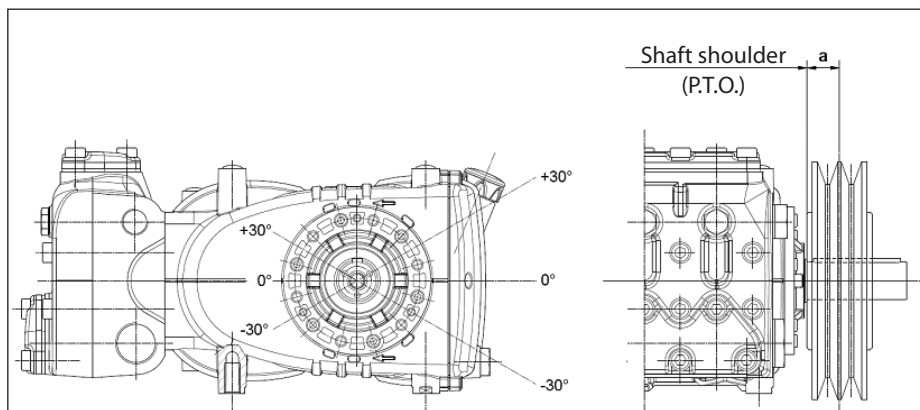

Fig. 10
The radial load on the shaft must not exceed 3000 N (value necessary for Layout definition). The transmission is considered adequate if the load is applied to a maximum distance $a=30$ mm from the shaft shoulder (P.T.O) as shown in Fig. 10.
- b) Use high performance belts – for example **XPB** instead of **SPB** – as a lower quantity of belts for the same transmitted power may be necessary and a consequent shorter resulting distance compared to the shaft shoulder (P.T.O) "a" of Fig. 10.